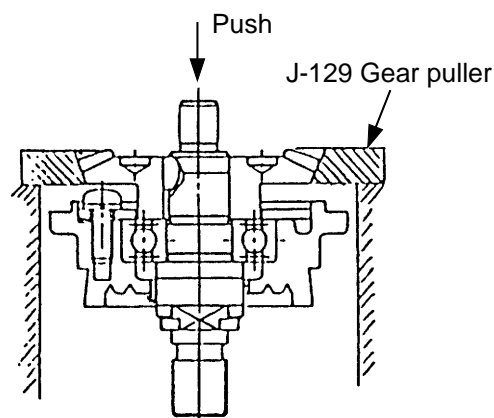

Fig. 5
- (1) Loosen the Seal Lock Screw (W/SP. Washer) M4 x 12 **[23]**, and remove the Packing Gland **[22]** together with the Spindle **[25]**, and Gear **[17]** from the Gear Cover Ass'y **[4]** in a single body.
- (2) As illustrated in Fig. 5, support the angled surface of the Gear **[17]** with a J-129 gear puller (special repair tool, Code No. 970905), rest the J-129 gear puller on a J-130 sleeve (special repair tool, Code No. 970907), and push down on the tip of the Spindle **[25]** with a hand press to remove the Gear **[17]**.